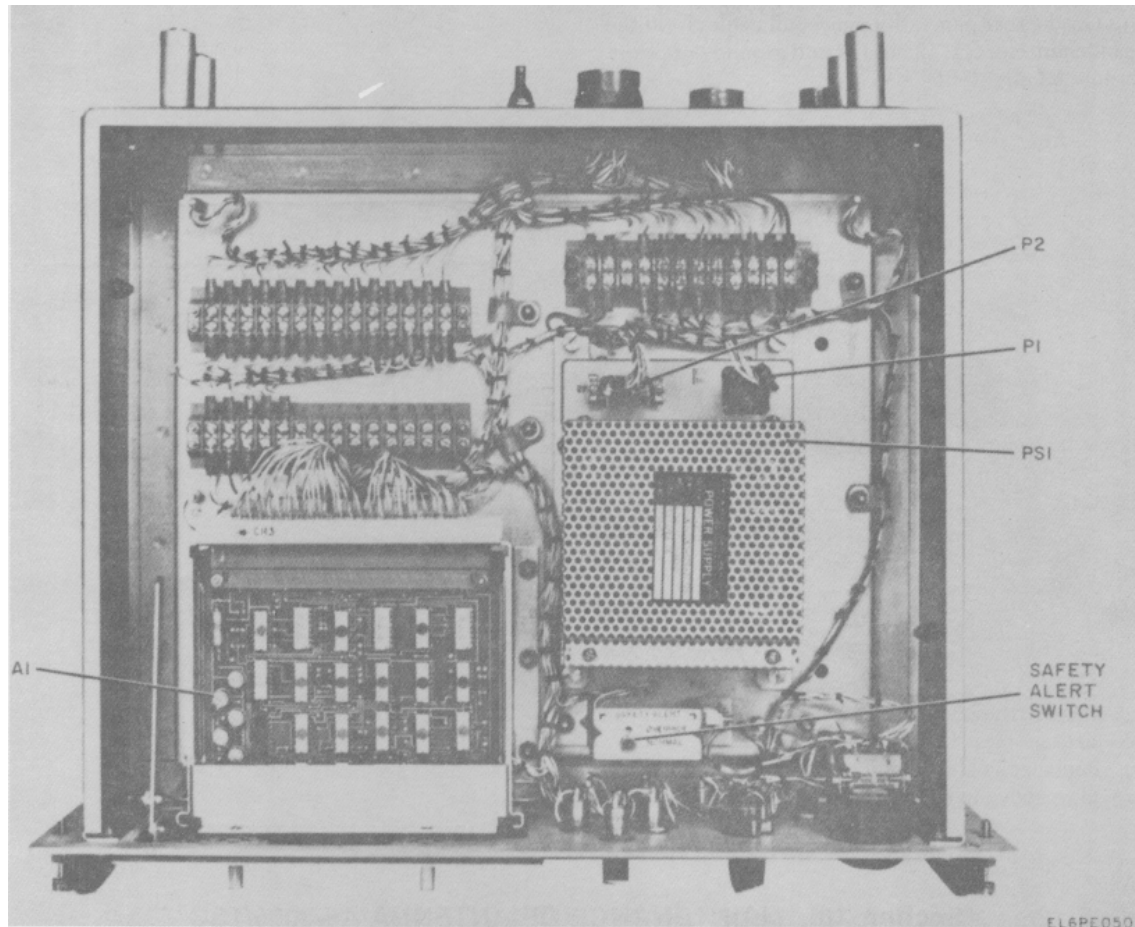

Figure 5-24. Alarm Monitor, Module Locations.
b. See figure 3-9 for location of controls and indicators and figures 5-24 and 5-25 for location of modules and other components. Refer to paragraph 5-45 for removal and replacement of modules and paragraph 5-46 for removal and replacement of the alarm monitor.
5-45. Removal and Replacement of Alarm Monitors Modules. (fig. 5-24)